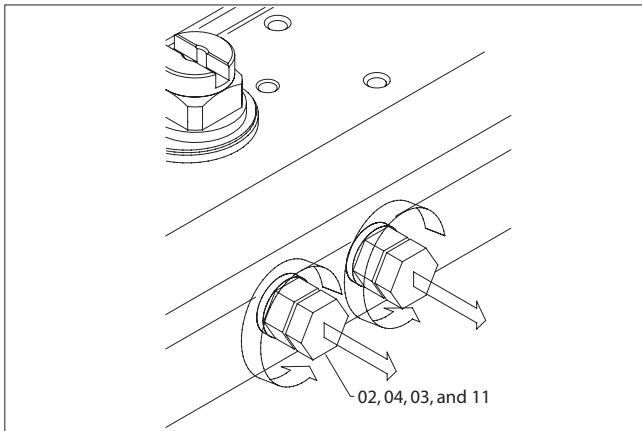

Figure 4.
- B. Lift position indicator (19) off shaft; it may be necessary to pry gently with a screwdriver.
**2. Removal of Stop Cap Screws (02), (Figure 4):**
- A. Remove both stop cap screws (02) together with nut (04) and washer (03).